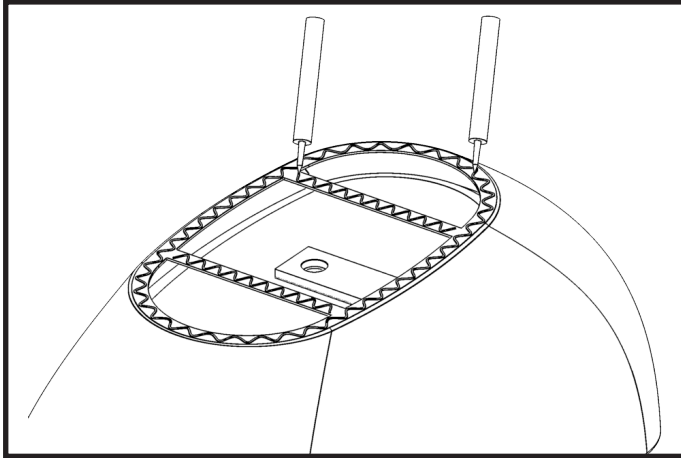

FIGURE 4
14. Using clear silicone or construction adhesive, apply a  $\frac{3}{8}$ " bead to the bottom of the bathtub to adhere it to the floor. See Figure 4.
15. Cautiously lower the bathtub so the drain drops through the opening in the floor. See Figure 4.
20. Using clear silicone or construction adhesive, apply a  $\frac{3}{8}$ " bead to the bottom of the bathtub to adhere it to the floor. Be careful to not allow silicone to get on the outside wall of the tub or floor area. Immediately wipe any excess with a clean, damp cloth. See Figure 4.